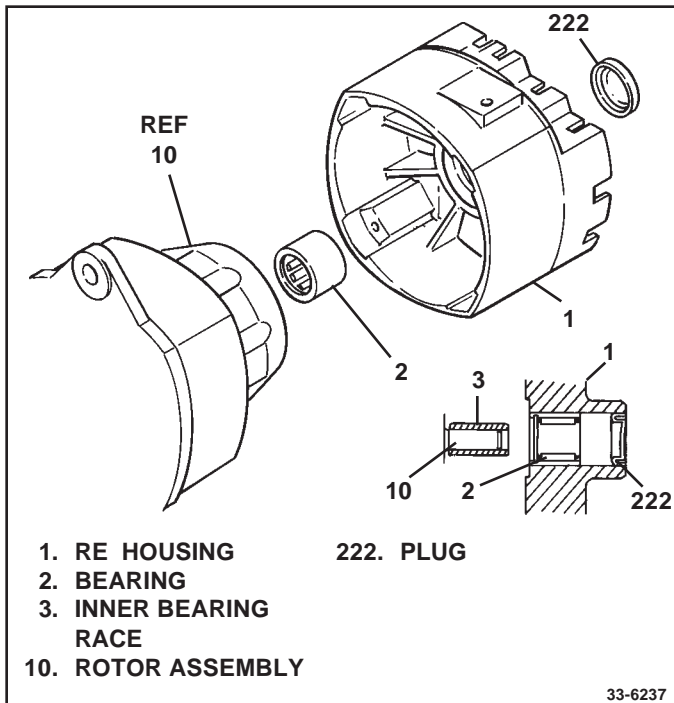

Figure 28. Installing Rectifier End Bearing
- Position new bearing (2) into rectifier end housing (1) with seal toward rotor assembly (10) as assembled. Press bearing outer race into housing center hole until flush with machined face inside housing. (See Fig. 28) Push plug (222) into end of housing until outside edges are flush with edge of RE housing.